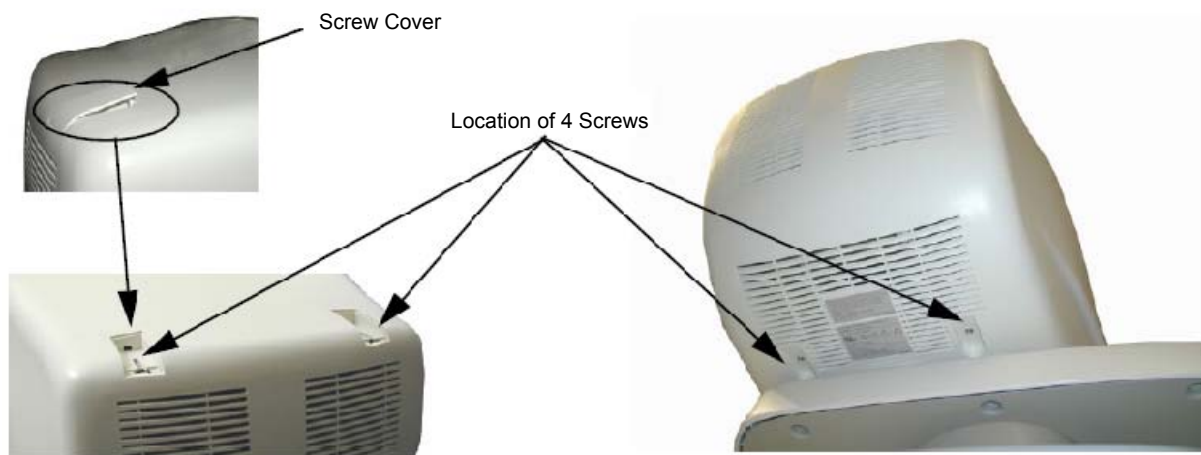

Figure 8-21 Location of Screws on Monitor Rear Cover
- 4.) Flick open and remove the two screw covers located at the top of the Monitor Rear Cover (one each side) - see Figure 8-21 below.
- 5.) Unscrew and remove each of the 4 screws that fasten the Monitor Rear Cover in position (two each side; one *upper* and one *lower*), as shown in Figure 8-21.
- 3.) Return and fasten each of the 4 screws (previously removed) to secure the Monitor Rear Cover firmly (two each side; one *upper* and one *lower*), as shown in Figure 8-21 on page 8-22.
- 4.) Return the two screw covers (previously removed) to the top of the Monitor Rear Cover (one each side) and place in the *closed* position - refer to Figure 8-21.